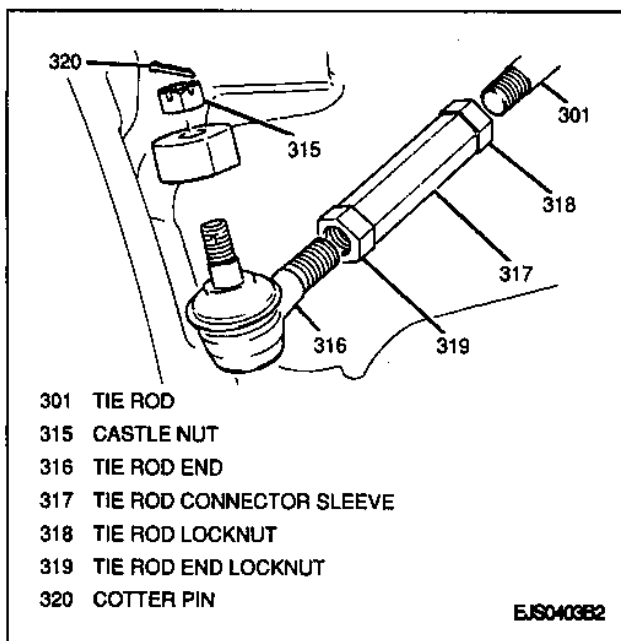

Figure 10—Installing Tie Rod End
1. Tie rod end and locknut to tie rod connector sleeve (Figure 10).